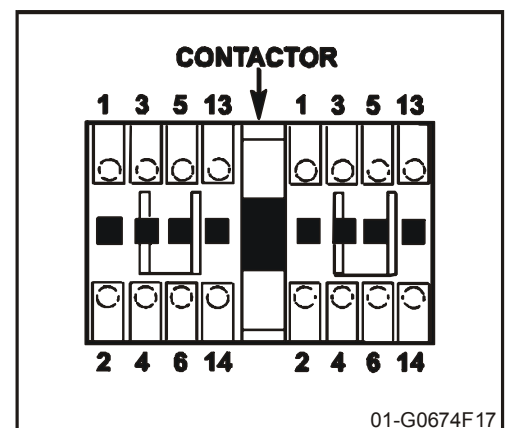

Figure 15
- Contactor (see Figure 15)
If the contactor is suspected to be causing the problem, first carefully check all wiring connections at the contacts (see Figure 15). **Disconnect Power!** Using a V.O.M., take continuity readings across the contacts of the contactor. Remove wires from one side of the contactor. Place one probe on 1 and the other on 2. You should get NO continuity; now press down on the contactor; you should get a continuity reading. Repeat this on all of the contactor's contact points.